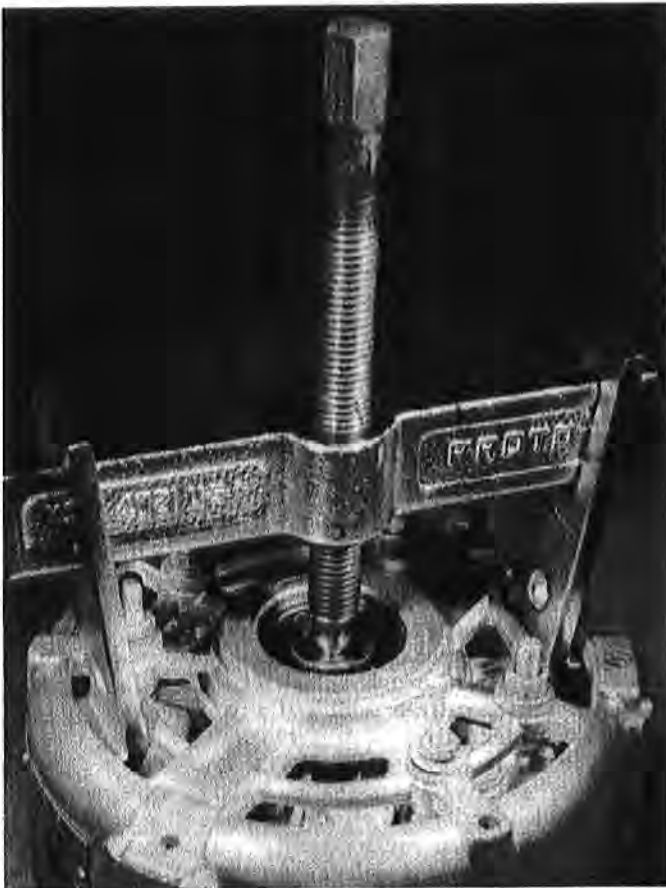

Figure 2-1
6. Using a puller (Proto Co. #4029 recommended, other may cause spine damage) installed on the slip ring end head housing as shown in Figure 2-1 to prevent damage to housing, separate the slip ring end housing and stator-rectifier assembly. Retrieve brush springs if they fall out during this operation. Place the removed slip ring end head and stator assembly on a pad to protect exposed stator winding pending further disassembly.